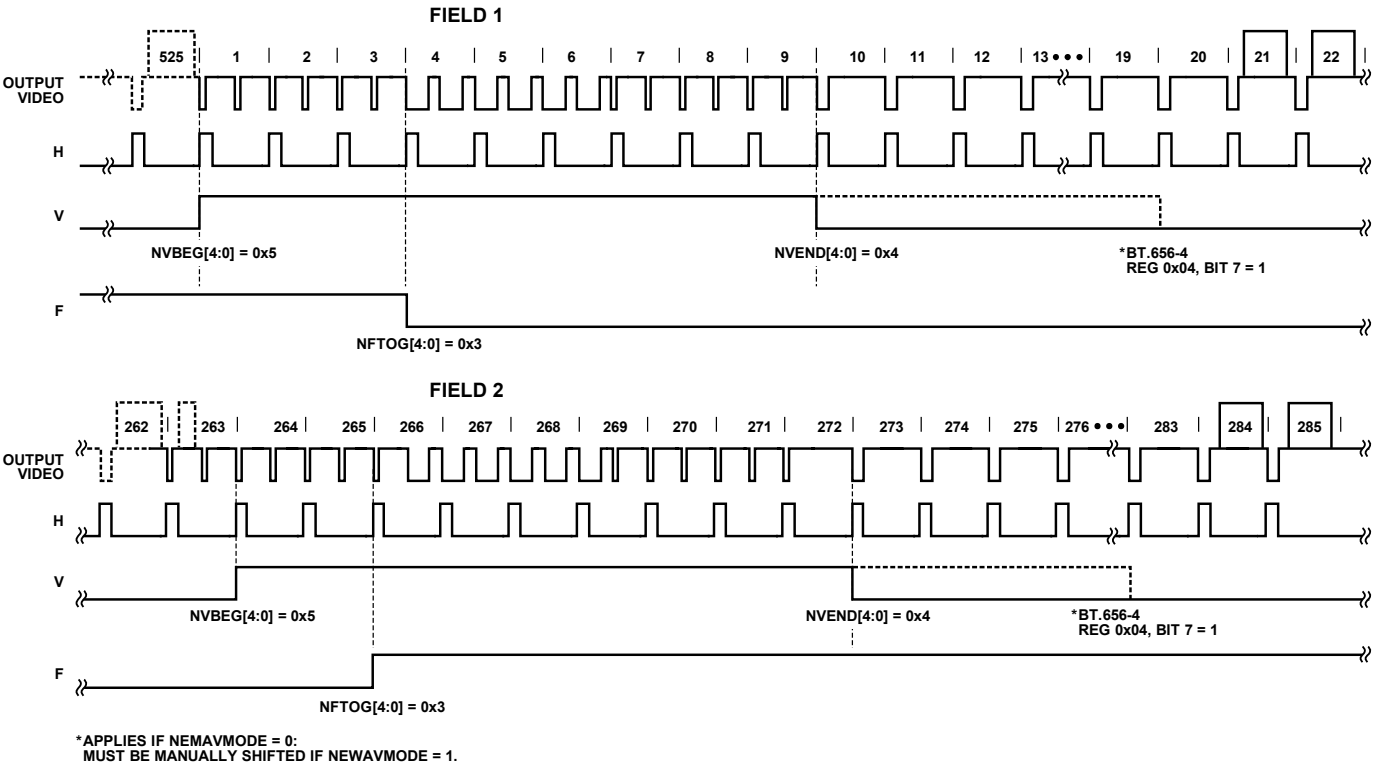
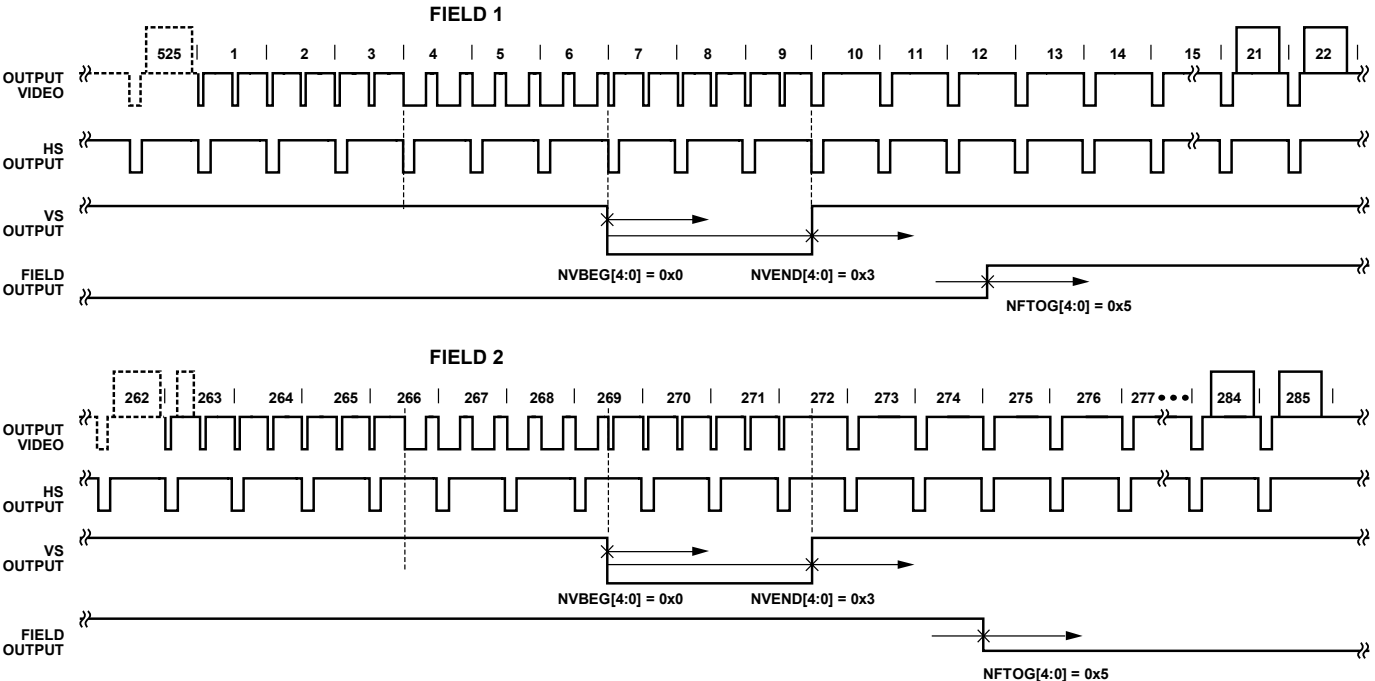

Figure 27. NTSC Default (ITU-R BT.656), the Polarities of HS, VS, and FIELD are Embedded in the Data
Figure 28. NTSC Typical VS/FIELD Positions Using Register Writes in Table 62
1 (default)—Enables the manual position of VS/FIELD and AV codes using Register 0x32, Register 0x33, and Register 0xE5 to Register 0xEA. Default register settings are CCIR 656 compliant; see Figure 27 for NTSC and Figure 32 for PAL. For recommended manual user settings, see Table 62 and Figure 28 for NTSC and Table 63 and Figure 33 for PAL.
**Table 62. Recommended User Settings for NTSC (See Figure 28)**